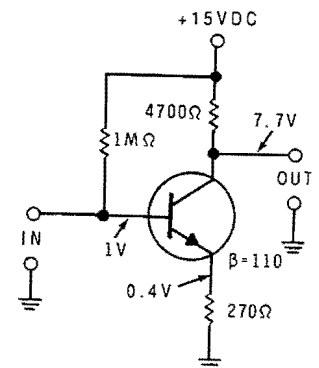

Figure 2-76
3. What is the voltage gain of the circuit in Figure 2-76?
4. What is the approximate input impedance of the circuit in Figure 2-76?